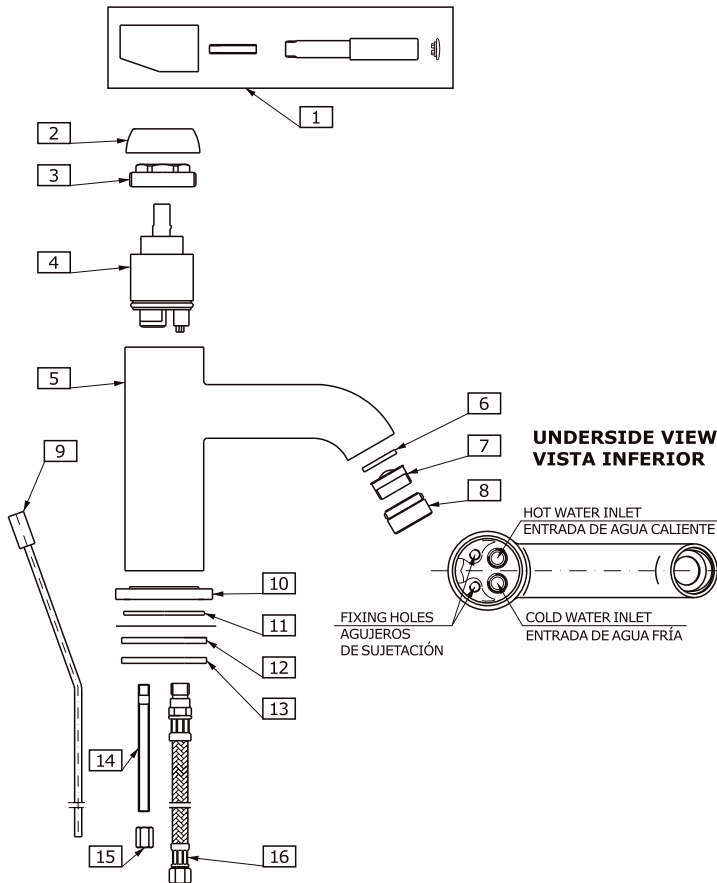

FIG. 1
See fig. 1
- ➔ Screw the flexible supply hoses (16) into proper holes (see fig.1). Screw the stud bolts (14) into small holes.
- ➔ Position base seal (11) in underside cavity of spout base (10). Be sure seal is fully seated in groove.
- ➔ Place spout base (10) and center over side hole of mounting surface¹⁾.
- ➔ Insert the lift rod (9) into the groove of the body of faucet (5).
- ➔ Insert the faucet with the lift rod (9) into the fitting hole of the sink. Position faucet onto the spout base (10).
- ➔ From underneath the sink place rubber washer (12), metal washer (13) on the stud bolts (14), then screw on the mounting nuts (15) onto stud bolts and hand-tighten.
- ➔ Make sure that the faucet is proper position on the sink. Tighten the mounting nuts (15) using adjustable wrench.
- Insert collar gasket (4) and drain collar (3) into drain hole of a lavatory. From underneath the lavatory slip under-bowl gasket (5) into drain collar (3), washer (6) and flanged nut (7).
- Position under-bowl gasket (5) correctly under the lavatory and screw flanged nut (7) firmly but do not overtighten.
- Make sure washer (8) is inside drain body (9) and screw drain body (9) onto drain collar (3) hand tighten only.
- Pay attention to align the drain body (9) so that the horizontal hole of drain body will be in the same plane as a lift rod (9 fig.1). Tighten drain body (9) onto drain collar (3) and tighten the flanged nut (7).
- Insert drain plug (2) into drain collar (3).
- Remove clip (15) from ball rod (12); undo a ball rod nut (13) from body, take out sealing washer (11) from a nut and push the nut forward over ball rod (12) from the longer end with the thread facing a ball.
- Insert the sealing washer (11) and the ball rod (12) into a side hole of drain body (9). Make sure that the rod ending goes under the plug screw head.
- Tighten ball rod nut (13) making sure that the ball rod seat (11) and ball rod (12) are properly installed.
- Add Teflon[®] tape to tail tube (10) and mount tail tube to drain body (9).
- Lift the drain plug (2) to an open position, by lowering the horizontal ball rod (12) down.
- Insert lift rod (9 fig.1) down through hole in the body of faucet (5 fig.1) and top of lift rod strap (14). Adjust to proper height and tighten screw (16).
- Choose the position of horizontal ball rod (12) in one of the holes in lift rod strap (14). Insert horizontal ball rod (12) through one arm of spring clip (15) and lift rod strap (14) and then second arm of spring clip (15).
- Try if a drain plug (2) closes the drain by pulling the lift rod. If not, make corrections of position of lift rod strap (14) and horizontal ball rod (12).
- Connect flexible hoses (see fig. 1, item 16) to the inlet valves of water supply lines. Use adjustable wrench when tightening. Do not overtighten.
See fig.1